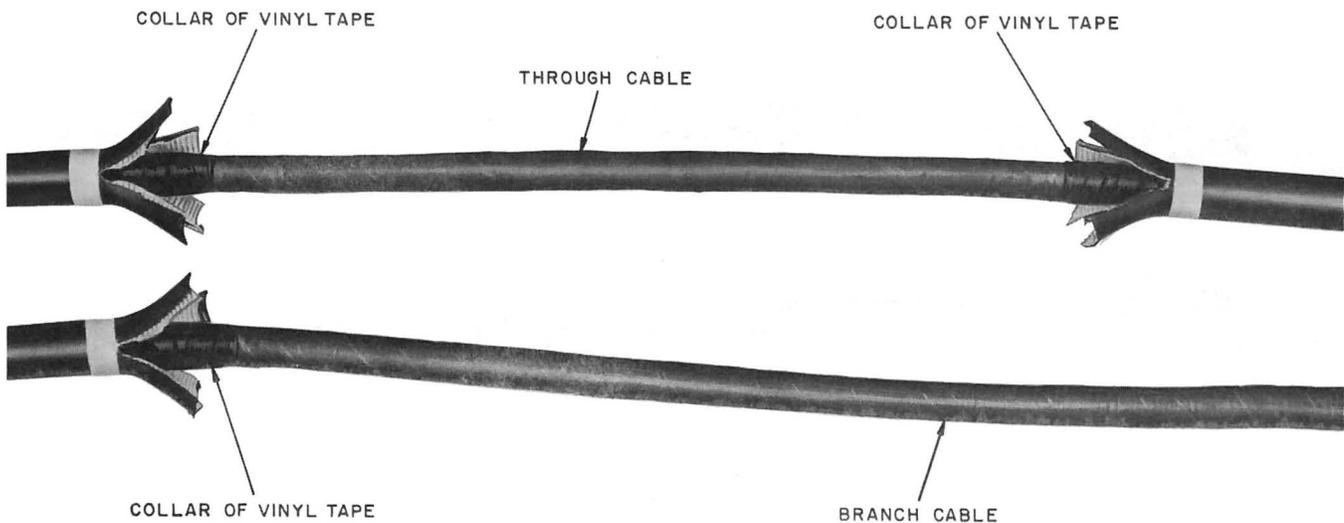

Fig. 20—Collar in Place Under Tabs
5.14 Wrap one layer of vinyl tape, adhesive side in, around the collar and slide the collar under the tabs as shown in Fig. 20.